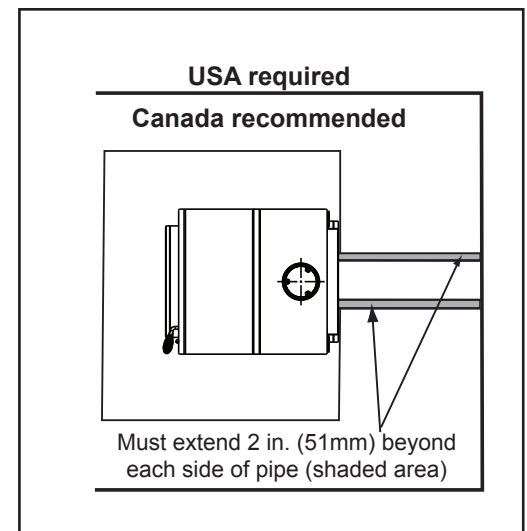

Figure 31.4
***EXCEPTION:** Non-combustible floor protections must extend beneath the flue pipe when installed with horizontal venting and extend 2 inches (51mm) beyond each side. **See Figure 31.4.**